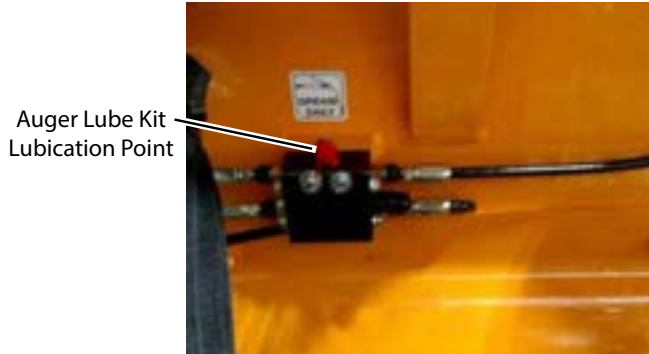

Figure 4-67. Auger Lubrication Point
The Auger Lube Kit combines the four (4) auger bearings grease points into one lubrication point, located on the back of the auger in front (left) of the right operator station. **(Figure 4-67)**